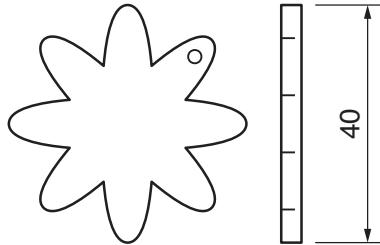

Fig. 1
- 1 Fig. 1 shows a key tag made from lead free pewter.